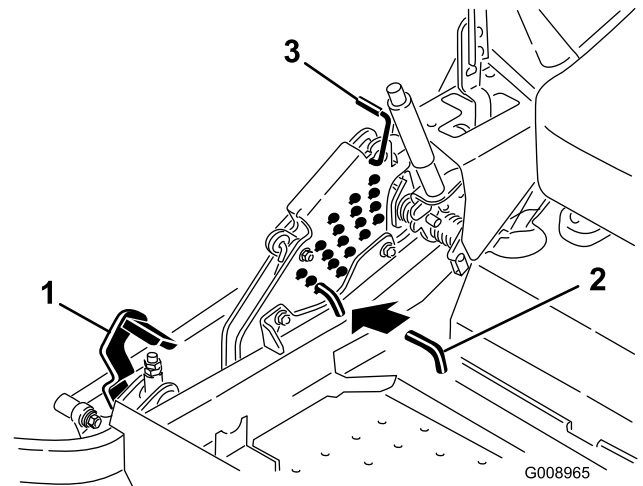

Figure 27
2. Push on the deck lift pedal with your foot and raise the mower deck to the transport position (also the 5-1/2 inch (140 mm) cutting height position) (Figure 27).
3. To adjust, rotate the pin 90 degrees and remove the pin from the height-of-cut bracket (Figure 27).
4. Select a hole in the height-of-cut bracket corresponding to the height-of-cut desired and, insert the pin (Figure 27).